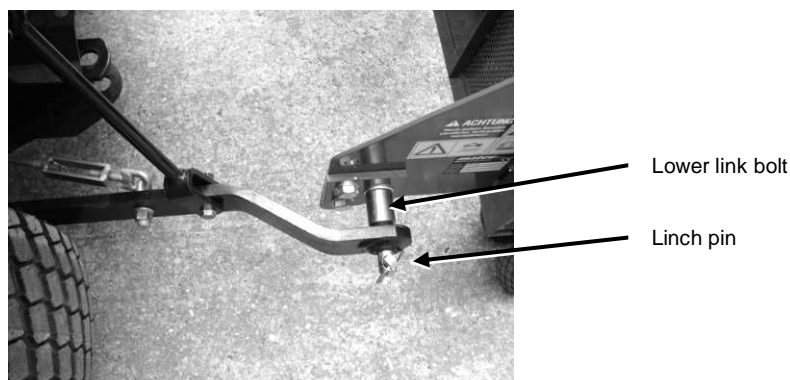

Fig. 25: Lower link bolt
2. Remove the linch pin on the lower link bolt (see Fig. 25).